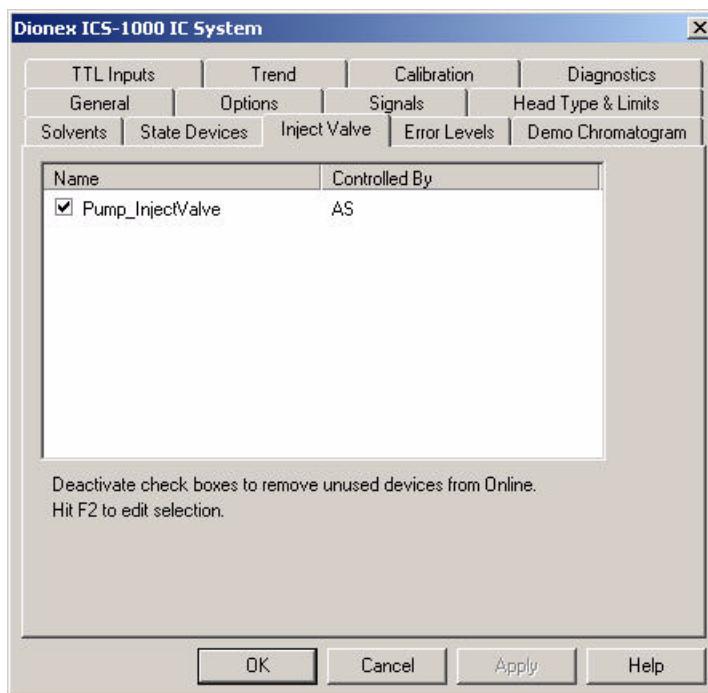

Figure B-41. ICS-1000 Inject Valve Server Configuration Properties
- d. Verify that the **Pump_InjectValve** check box is selected and that **AS** is listed in the **Controlled By** column (see Figure B-41).